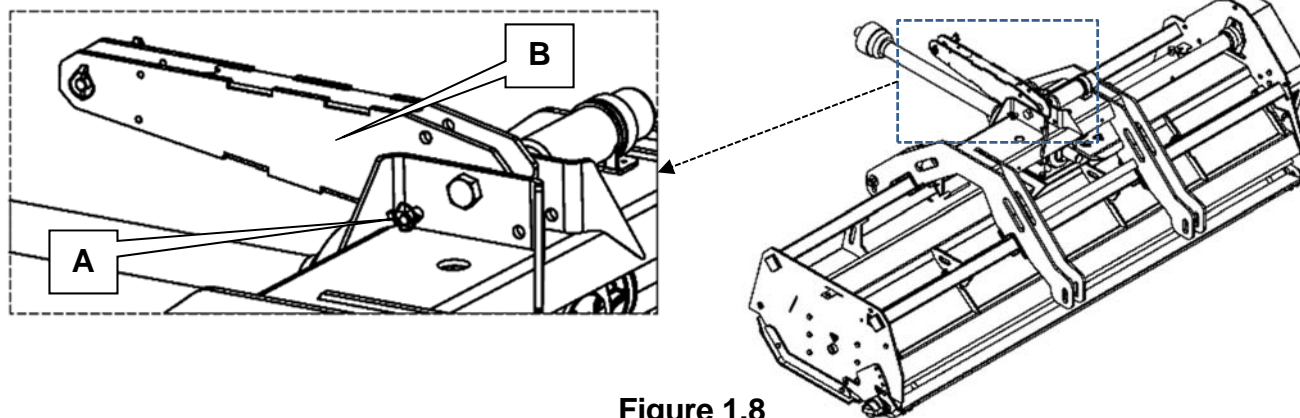

Figure 1.8
1.5.1.2 The machine is normally supplied configured for rear mount, see Figure 1.8.
- 1.5.1.3 Remove lynch pin, Figure 1.8 (A) and rotate Top link arm, Figure 1.8 (B) to the rear and refit lynch pin.